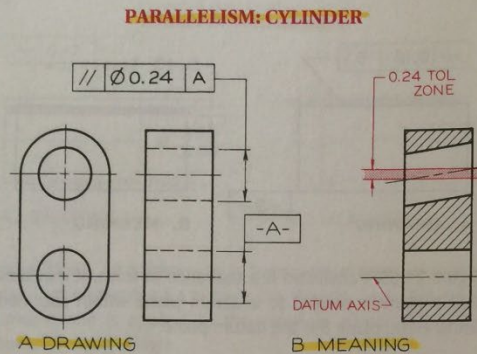

Figure 21.70 You may specify parallelism of one centerline to another by using the diameter of one of the holes as the datum.
Figure 21.68 The profile of a line is a tolerance of form that specifies the variation allowed from the path of a line. Here, the line is formed by tangent arcs. The tolerance zone may be either bilateral or unilateral, as shown in Fig. 21.70.
2. A **cylindrical tolerance zone** parallel to a datum feature within which the axis of a feature must lie (Fig. 21.70).